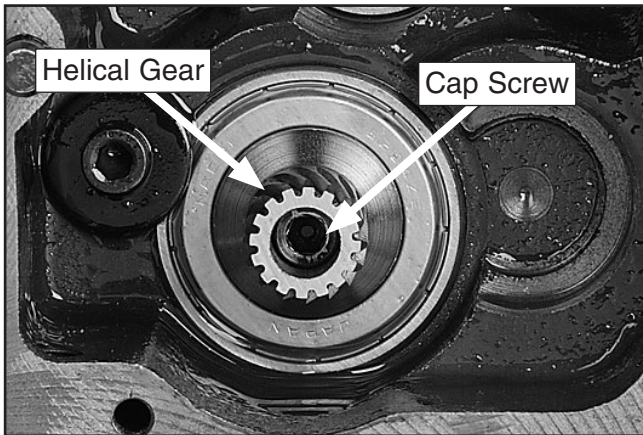

Figure 9. Helical gear and cap screw.
24. Remove cap screw from inside helical gear, shown in **Figure 9**, and remove gear.